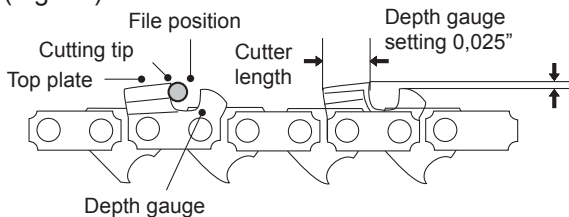

Fig. 44
9. Use a depth gauge measuring instrument to check the height of the depth gauge. Depth gauge measuring jigs are available from most reputable tool merchants (Fig. 44).